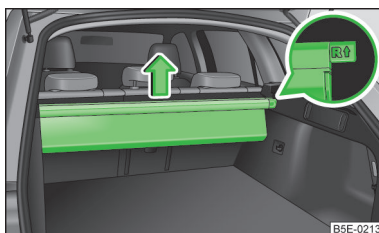

Fig. 95
- Remove the multifunction box from the receptacle in the direction of the arrow » Fig. 95.
- When inserting, push the end of the bar marked **R** into the right receptacle and the end of the bar marked **L** into the left receptacle. The arrows should be pointing forward » Fig. 95.